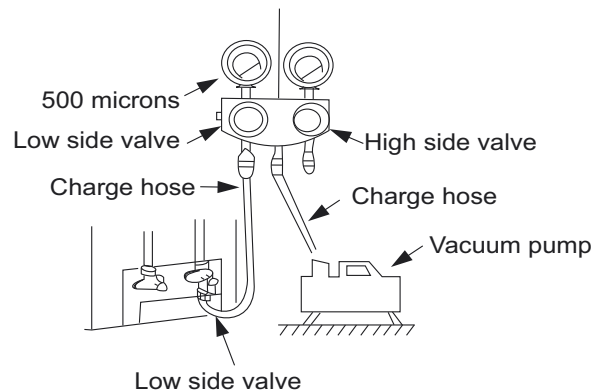

Fig. 47 —Manifold
3. Fully open the low side of manifold gage (see Fig. 47).